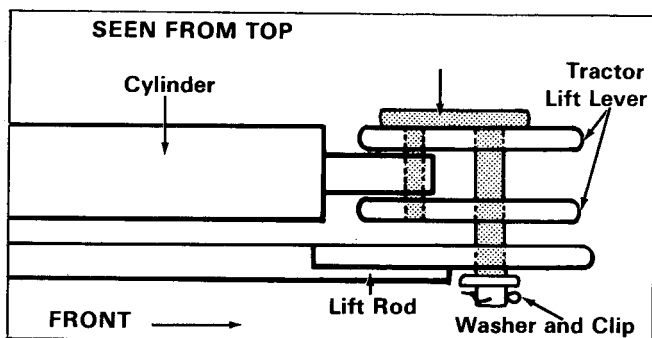

Figure 4.
- f. Using the front trunnion (Y, figure 1), connect the cylinder and lift rod (G) to the tractor lift lever. (See figure 4.) Position cylinder and insert short leg of trunnion through it. Connect lift rod to long leg of trunnion. Be sure lift rod is positioned with flat side as shown.